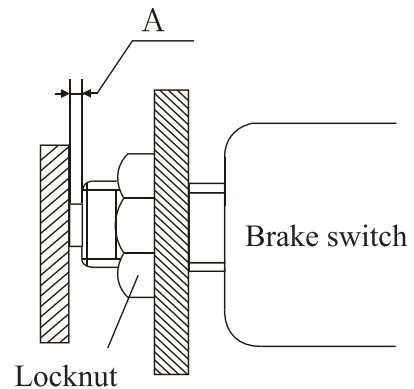

Fig.5-21
- (1) After making sure that the brake pedal height is as indicated in Fig.5-21, loose the brake switch lock nut.
- (2) Remove the brake switch lead wire from the connector.
- (3) Turn the switch so that the size at "A" is 1mm.
- (4) Make sure the brake lamps turn on when the brake pedal is pressed 30mm.